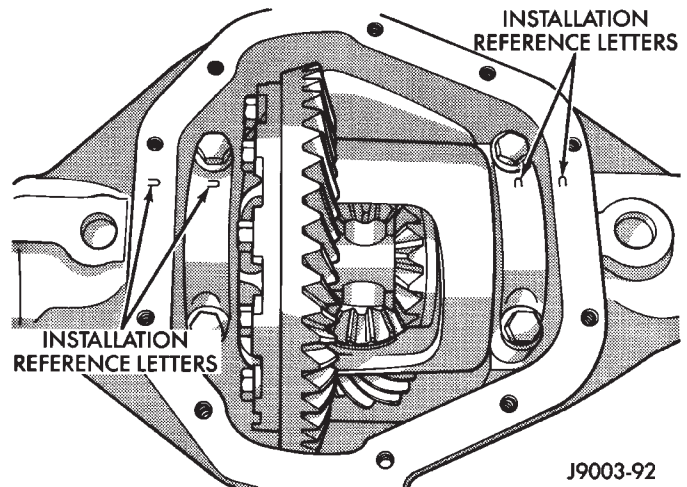

Fig. 62 Differential Bearing Cap Reference Letters
(6) Install the bearing caps at their original locations (Fig. 62). Tighten the bearing cap bolts to 61 N·m (45 ft. lbs.) torque.